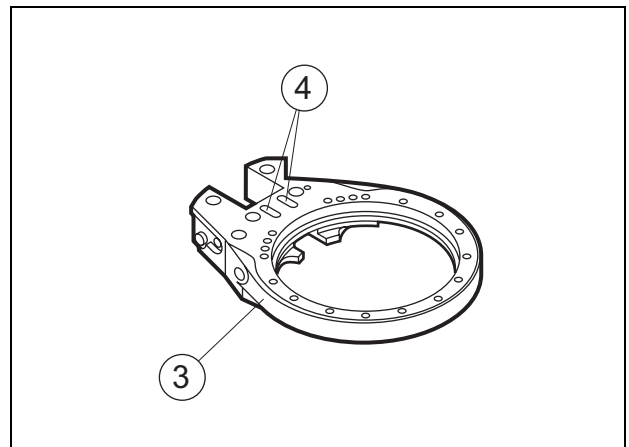

Fig. 46 Tensioning device
5. Inspect and clean the grooves (4). *See Fig. 46.*